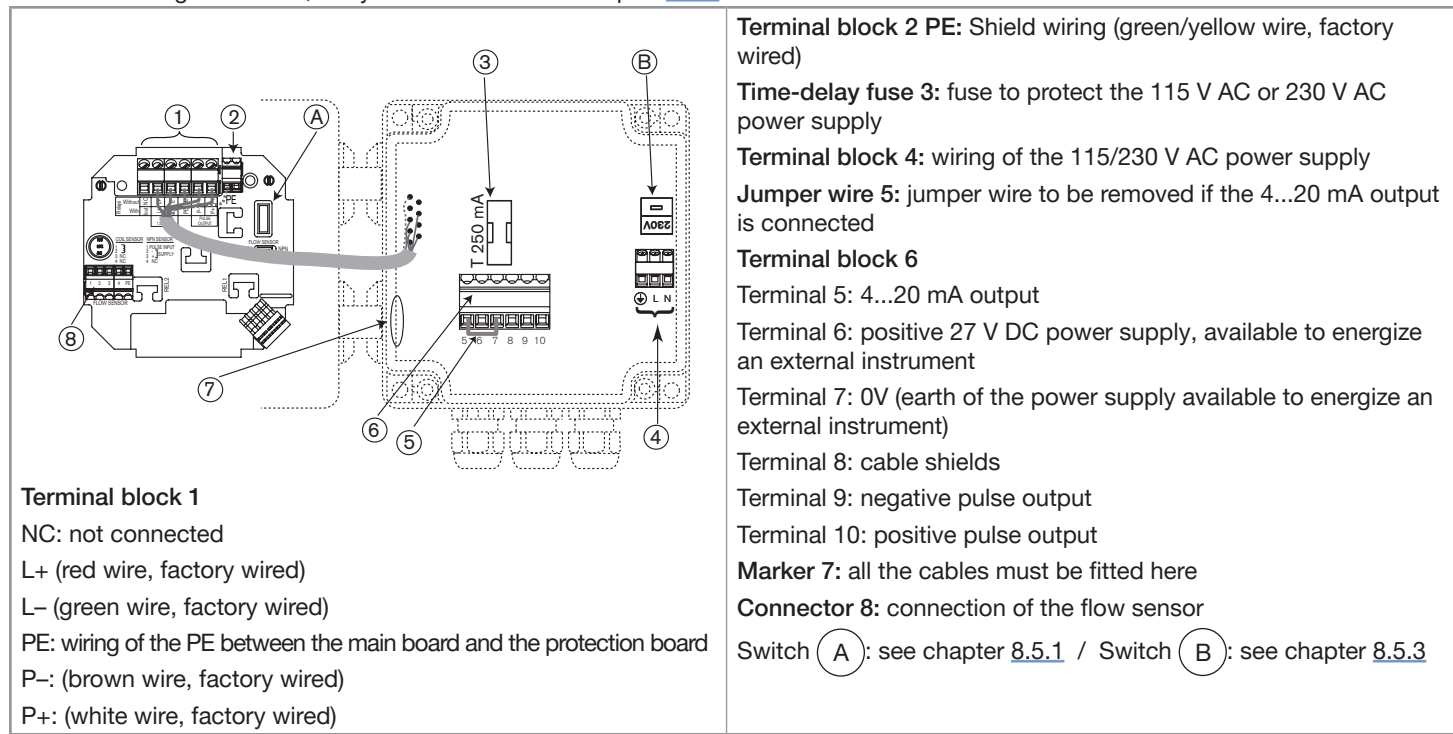
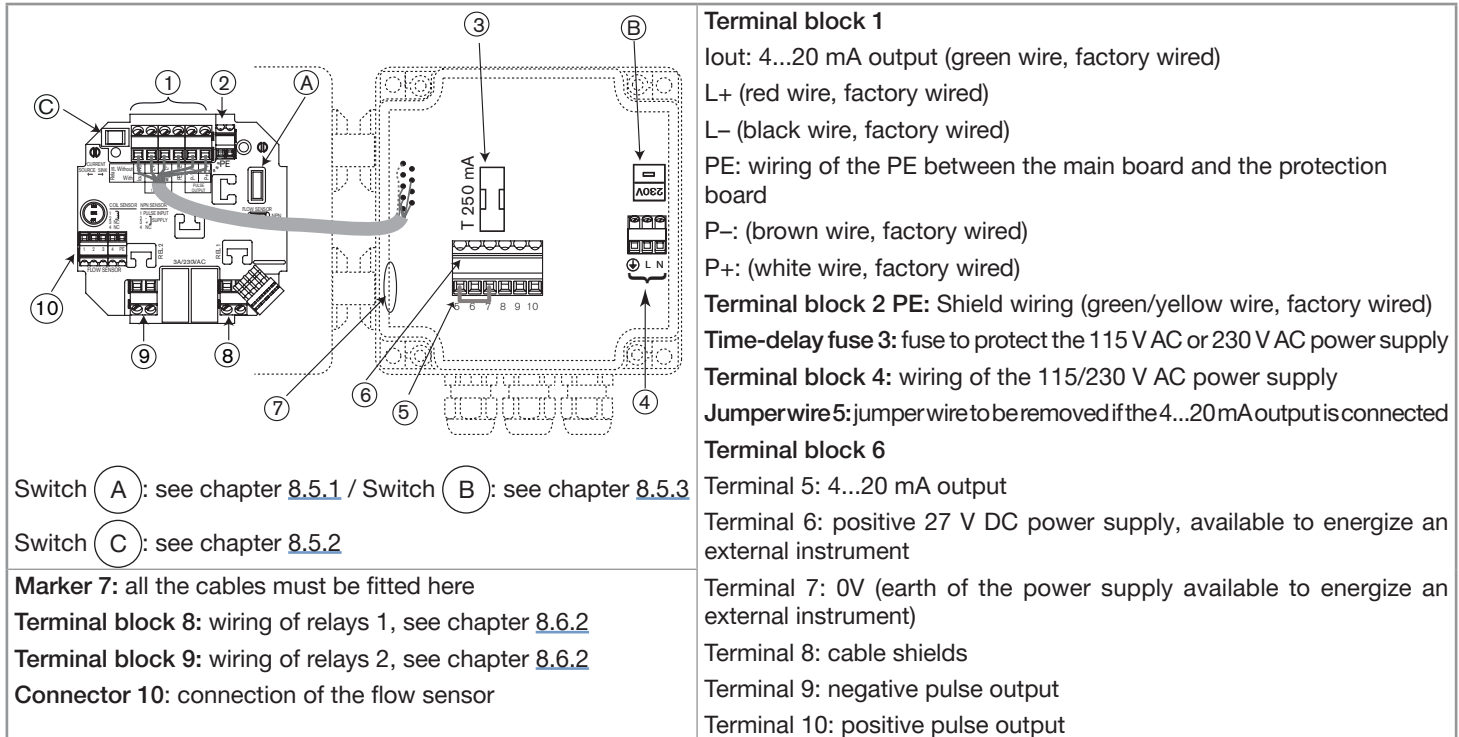

Fig. 42: Terminal assignment of a wall-mounted version, 115/230 V AC, without relays
Fig. 46: Terminal assignment of a wall-mounted version, 115/230 V AC, with relays
- Remove the two terminal blocks (marked 4 and 6 in Fig. 42, chapter 8.8.2 and Fig. 46, chapter 8.8.3) from the housing.
- Insert the two terminal blocks (marked 4 and 6 in Fig. 42, chapter 8.8.2 and Fig. 46, chapter 8.8.3) into their original position.